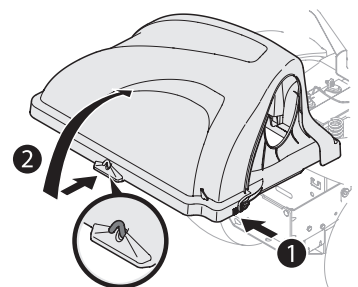

Figure 17
8. Open bagger cover by pushing in on the rear, right-side tab with your right hand (1), and lifting the cover with your left hand in the center rear of the bagger cover (2) as shown in Figure 17.